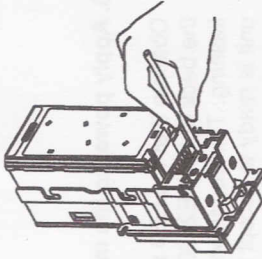

Figure 4
3. Locate the service button on the back of the unit (refer to Figure 4), depress the button once to enter coupon set-up mode. Depressing again will exit the mode.